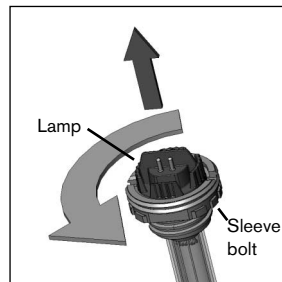

Figure 4
- To remove the lamp from its sleeve, use a glove or cloth to support and hold on to the sleeve. Holding the sleeve bolt tight, unscrew the lamp end, the top of which protrudes 1/2" above the sleeve bolt (Figure 4). Be careful not to drop the sleeve.